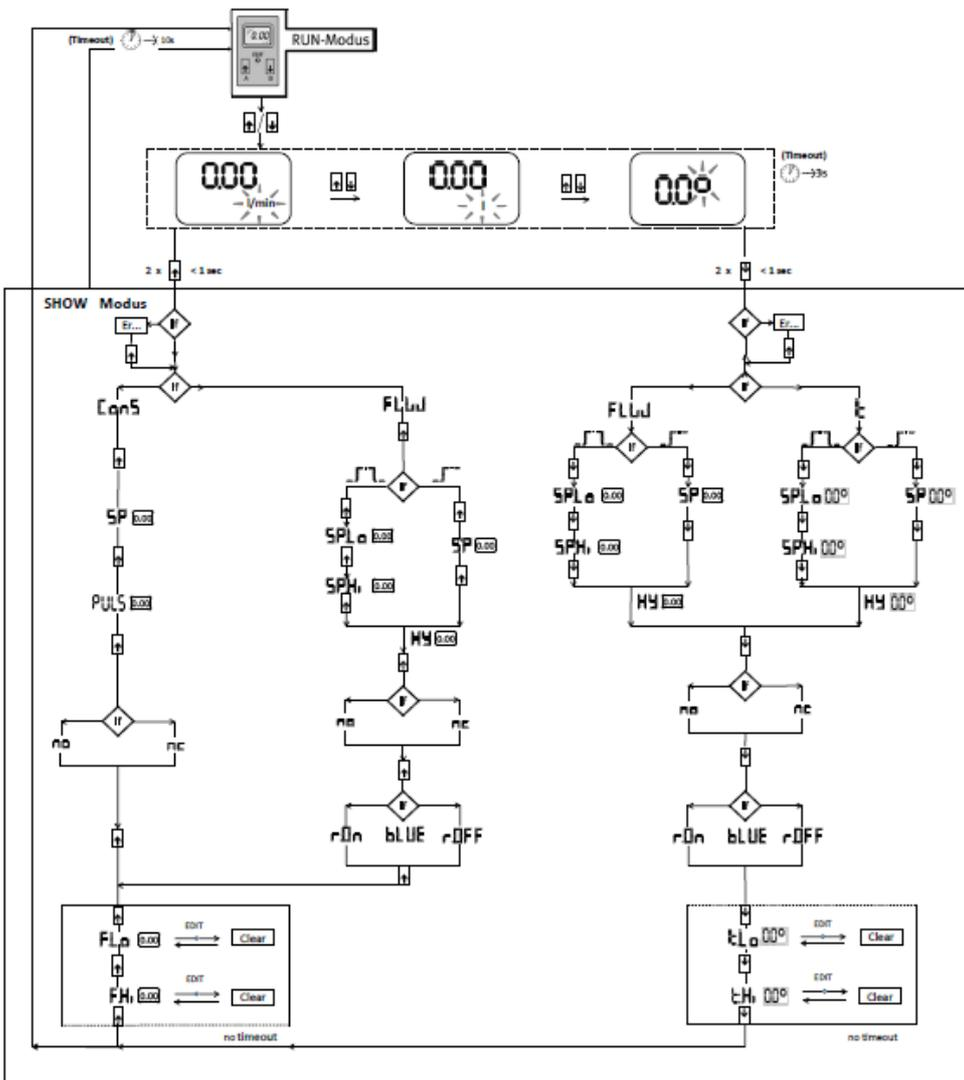

Fig. 41
- Repeated pressing of the A button/B button displays the settings of the respective switching output one after another → Fig. 41.